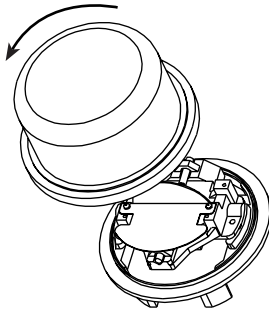

Figure 16. Removing Cover
1. Unscrew the cover on the meter in a counter-clockwise direction. See Figure 16.